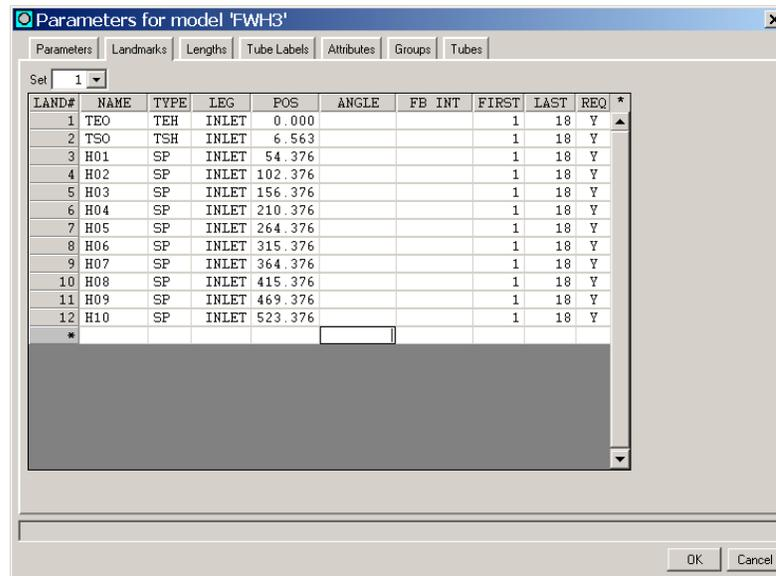

Figure 8-3. Parameters dialog - Landmarks Tab Showing Landmark Set 1
- STEP 4:** When you have finished, the *Landmarks* tab of the *Parameters* dialog should look like the one shown in Figure 8-3. Click *OK* on the *Parameters* dialog.